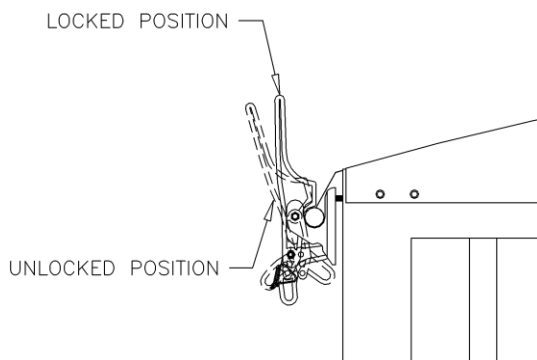

Figure 14 Optional
**Procedure:** Locate the front round bracket (J) 4 inches in from the face of the front end cap and 3/4" lower than the top edge of the trailer. Using a 5/16" drill bit, drill two holes through the predrilled holes in the bracket and into the trailer. Secure the bracket to the trailer using two 3/8"x1-1/4" self-threading bolts (K) provided. Remove the 1/4"x3" hex bolt (L) from the flip-release tarp stop (M). Insert the bolt through the bracket (J) and through the tarp stop (M). Secure using the 1/4" lock nut. Torque the bolt appropriately so the flip-release tarp stop will remain in the unlocked position (see Figure 14). Remove the quick pin from the bottom hole of the flip-release tarp stop and adjust the tarp stop so it is in the unlocked position (see Figure 14). Install the rear bracket 4 inches in from the face of the rear end cap and 3/4" lower than the top edge of the trailer. Evenly space the remaining flip-release tarp stops along the same side of the trailer making sure to mount the brackets 3/4" lower than the top edge of the trailer. Position the quick release pipe (N) in the round brackets (J) (see Figure 12-13). Adjust the tarp so that it sits two inches in from wind deflector on the front end cap. Once the tarp is in position engage the stops into the locked position (see Figure 14). Reinsert the quick pins through the bottom holes in the round flip-release stops. After all the tarp stops are secured in the locked position, secure the small